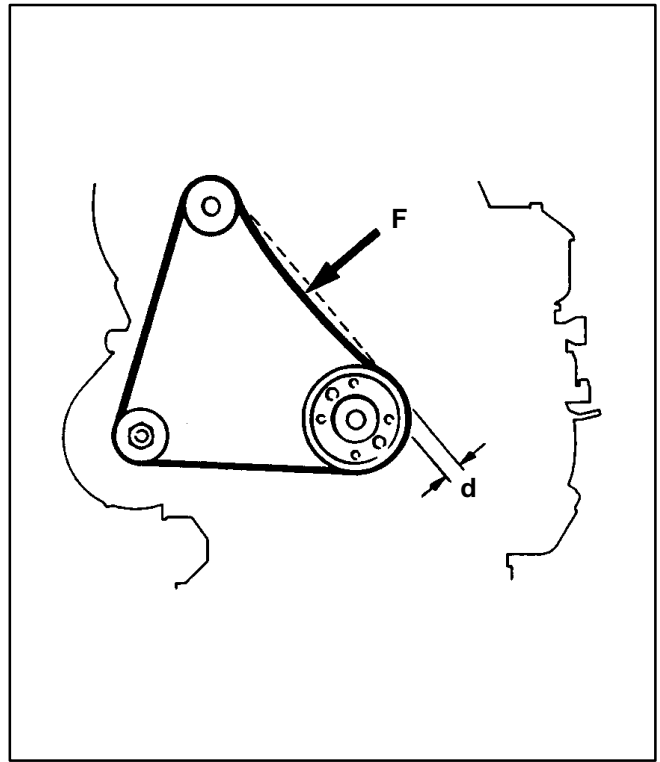

FIGURE 9-6. FAN BELT—AIR COOLING
To check belt tension, remove the belt guard and push the fan belt midway between the two pulleys shown in Figure 9-6 or 9-7. Use a spring balance to measure force (F) and a straight edge and ruler to measure belt deflection (d). Belt deflection should be 3.5 mm (0.14 in) under a force of 31.0-33.5 N (7.0-7.5 pounds [lbf]) for a new belt and 22.0-24.0 N (5.0-5.4 pounds [lbf]) for a used belt.